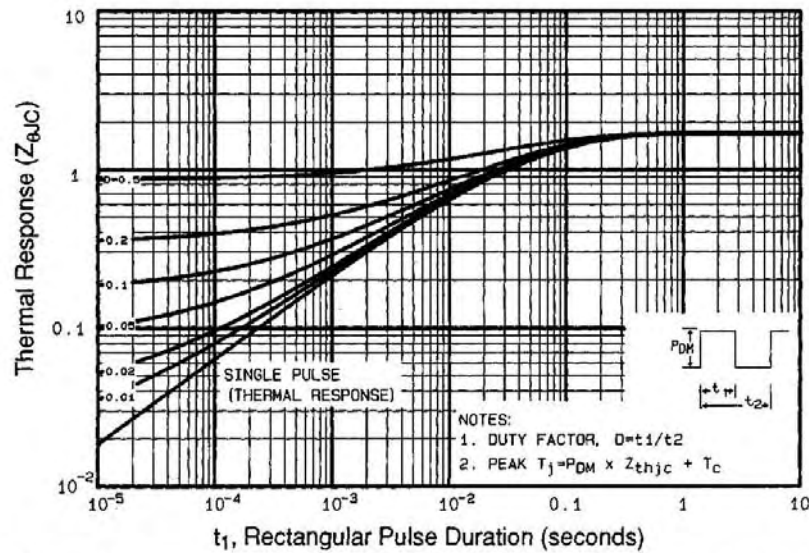

Fig 11. Maximum Effective Transient Thermal Impedance, Junction-to-Case
① Repetitive rating; pulse width limited by max. junction temperature (See Figure 11)
③ $I_{SD}\leq 9.0A$, $di/dt\leq 120A/\mu s$, $V_{DD}\leq V_{(BR)DSS}$, $T_J\leq 150^\circ\text{C}$